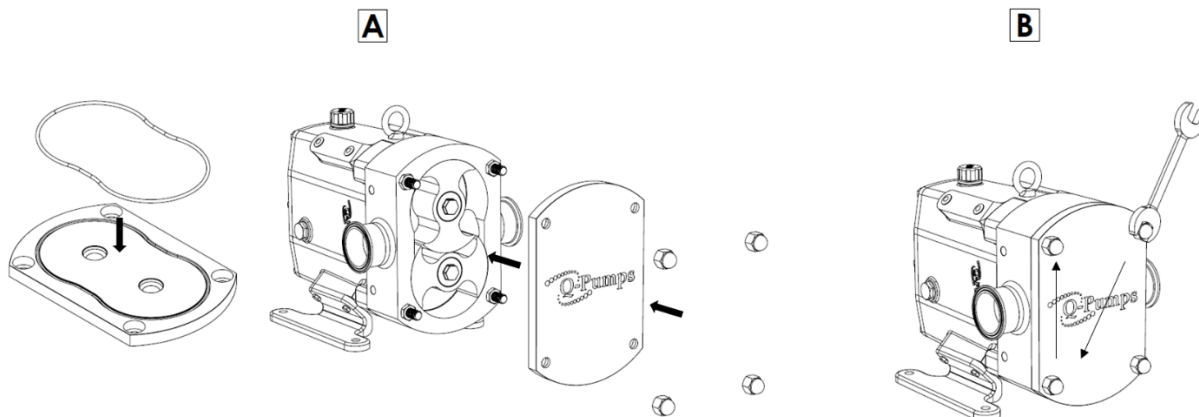
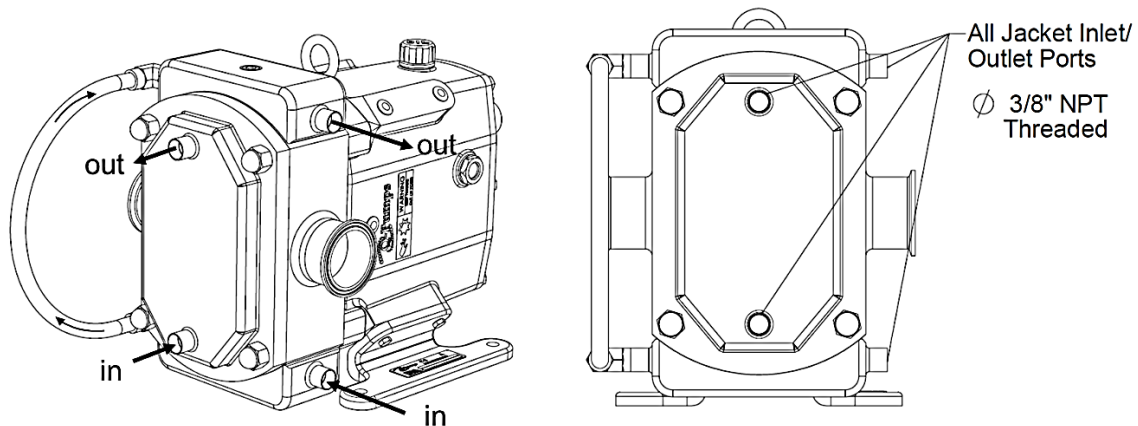

Figure 63: Cover Installation
Figure 65: Jacketed Cover
3) Install the new cover o-ring and slide the cover over the studs (Figure 63, A). Visually inspect to ensure that the cover o-ring remained in place. Using an appropriate wrench, thread the cover nuts on the studs and tighten them in an opposing manner as seen in Figure 65, so that the cover is evenly tightened to the body.
The jacketed cover and casing option (Figure 65) allows for heating or cooling fluid to be circulated around the pump's fluid end to match the demands of certain products. This fluid (media) can preheat or cool the product and sustain temperature during operation and short shut downs. The jacketed cover is not a heat exchanger and is not designed to primarily control the product temperature. Please contact Q-Pumps for replacement information.